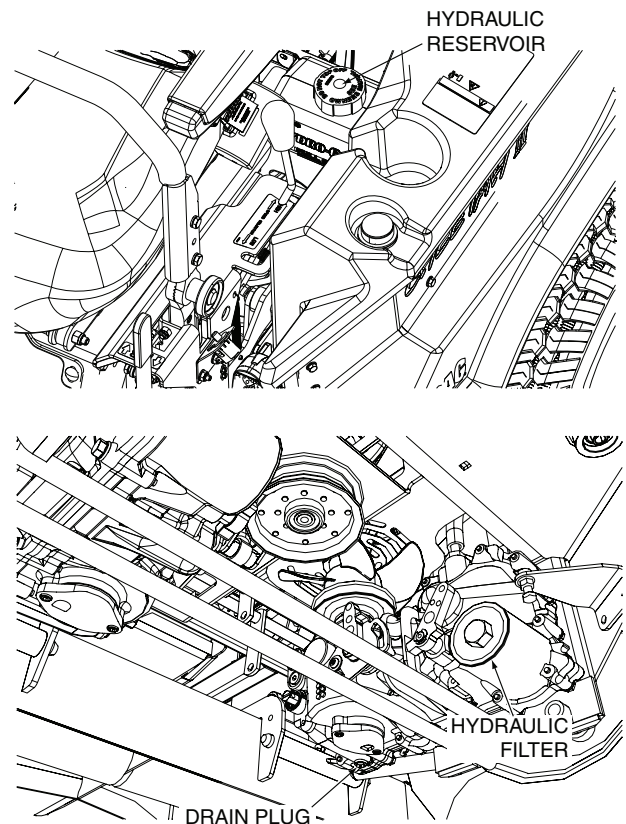

Figure 7-3. Hydraulic Oil Filter and Drain Plug
3. Place a suitable container (capable of holding 6 quarts) under the RH hydraulic axle assembly. Remove the cover over the hydraulic reservoir located on the LH fuel tank. Remove the fill cap from the reservoir and the drain plug from the bottom of the RH hydraulic axle assembly. See Figure 7-3. Allow the fluid to drain into the container and properly discard it.
5. Place the container (capable of holding 6 quarts) under the LH hydraulic axle assembly. Remove the drain plug from the bottom of the LH hydraulic axle assembly. See Figure 7-3. Allow the fluid to drain into the container and properly discard it.